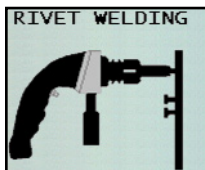

Figure 6.19
2. Select Rivet Welding Program by pressing the Left or Right Navigation Buttons (fig. 4.9). Make sure that Rivet Welding graphic appears on the screen (fig. 6.19)